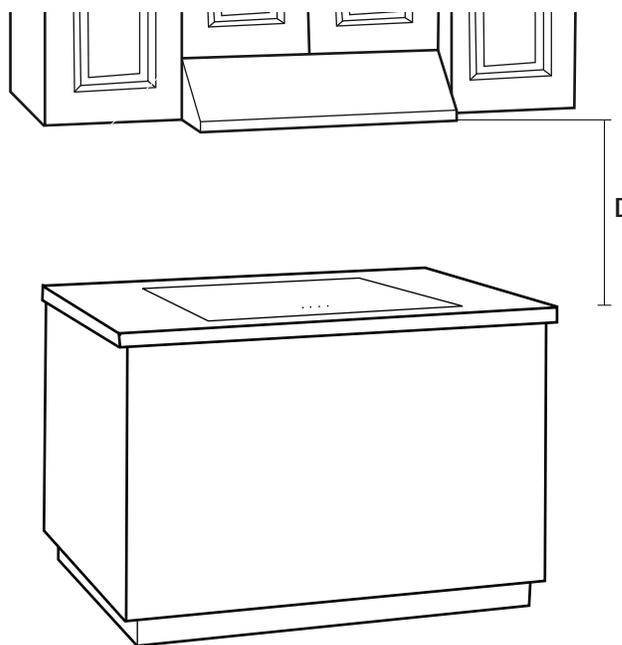

Fig. 1
4. If you choose to hang the range hood as below (Fig. 1) distance (D) from the cooktop surface, use extra caution as the surface of range hood may be extremely hot to the touch. For this unit, (D in Fig. 1) is 457 mm - 710 mm (18 in - 28 in). If you choose an 18 in installation, the temperature of the unit surface will be high if the unit is operated under high power cooking for a certain amount of time.